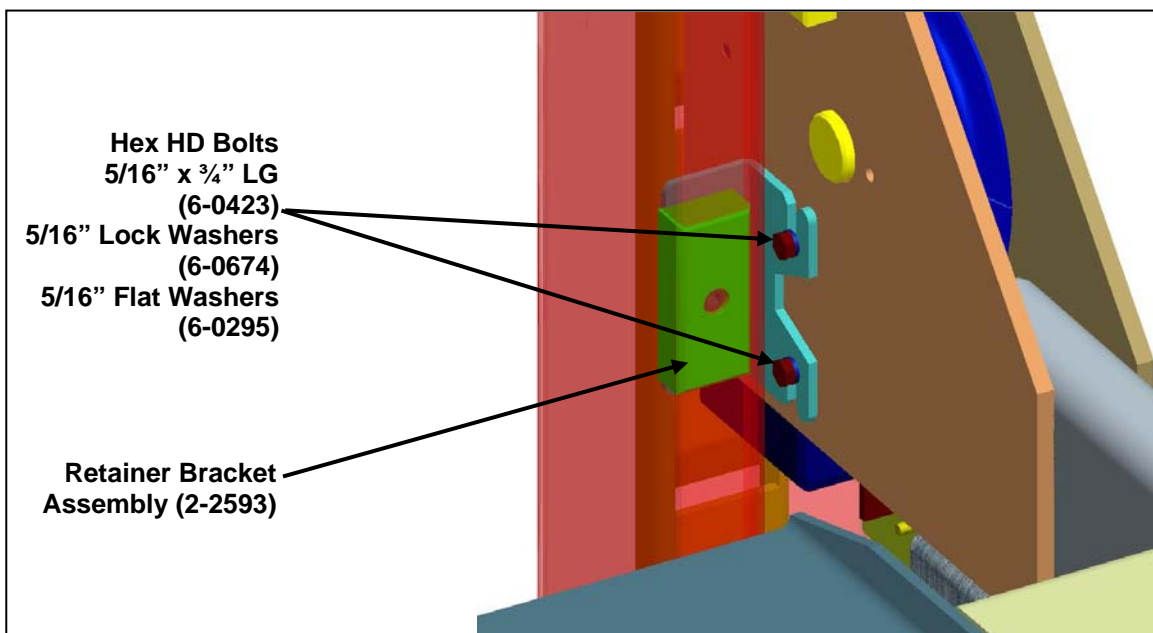

Figure 12. Retainer bracket installation
- Install the second 5/16"x 3/4" long hex head bolt and 5/16" lock washer through the lower slot and into the bottom mounting hole in the crossmember. Tighten both of the bolts. See Figure 12.